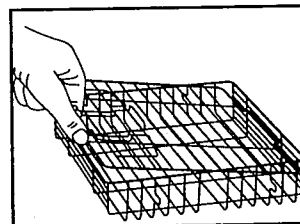

Figure 7
2. Grasp the wire handle on the Adjustable Basket. Pull the wire closest to the edge toward the other handle wire and lift up. Pull the "tab" end of the Basket Cover out of side wires and lift up to remove Cover. See Figure 7. Set Cover aside.